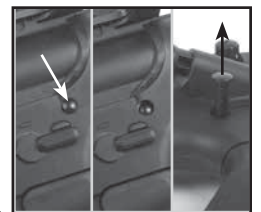

Fig. 10
- Lift up the back end of the receiver until the barrel is perpendicular to the lower receiver (Fig. 10).